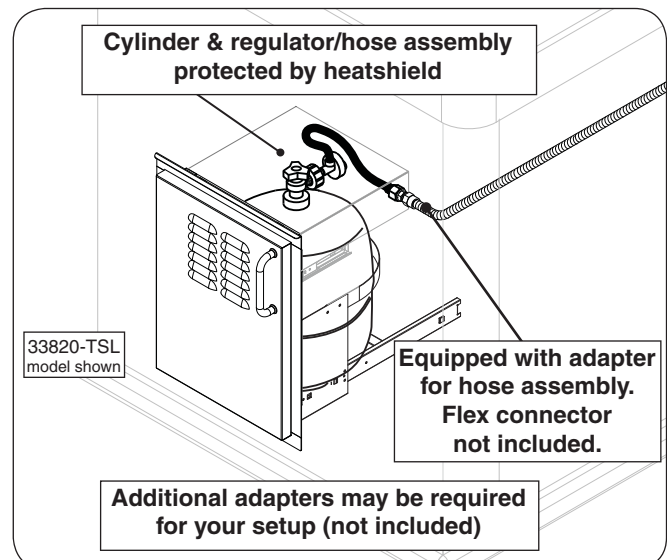

Fig. 14-3 Optional RHP door w/ tank tray
- **RHP offers propane tank door with tank tray models and a propane tank heatshield that rests directly on the tank to meet the cylinder install requirements. Propane tank door with tank tray shown in Fig. 14-3. Contact your dealer for ordering information.**